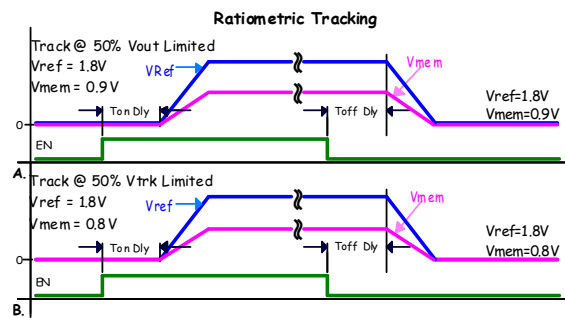

FIGURE 16. RATIOMETRIC TRACKING
- a. Track at 50% VOUT limited. Member rail tracks the reference rail and stops when the member reaches 50% of the target voltage, Figure 16\(A\).
- b. Track at 50% VTRK limited. Member rail tracks the reference at the instantaneous voltage value applied to the VTRK pin until the member rail reaches 50% of the reference rail voltage, or if the member is configured to less than 50% of the reference the member will achieve its configured target, Figure 16\(B\).